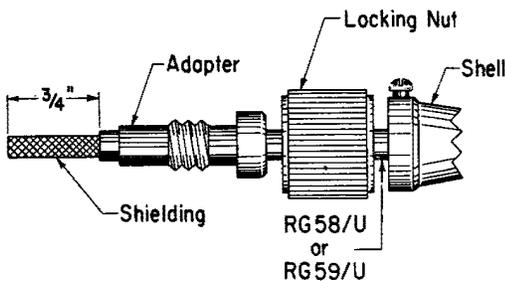

Fig. 45
- (a) Cut end of cable even. Remove vinyl jacket 3/4 inch. Slide shell, locking nut and adapter on cable as shown in Fig. 45.